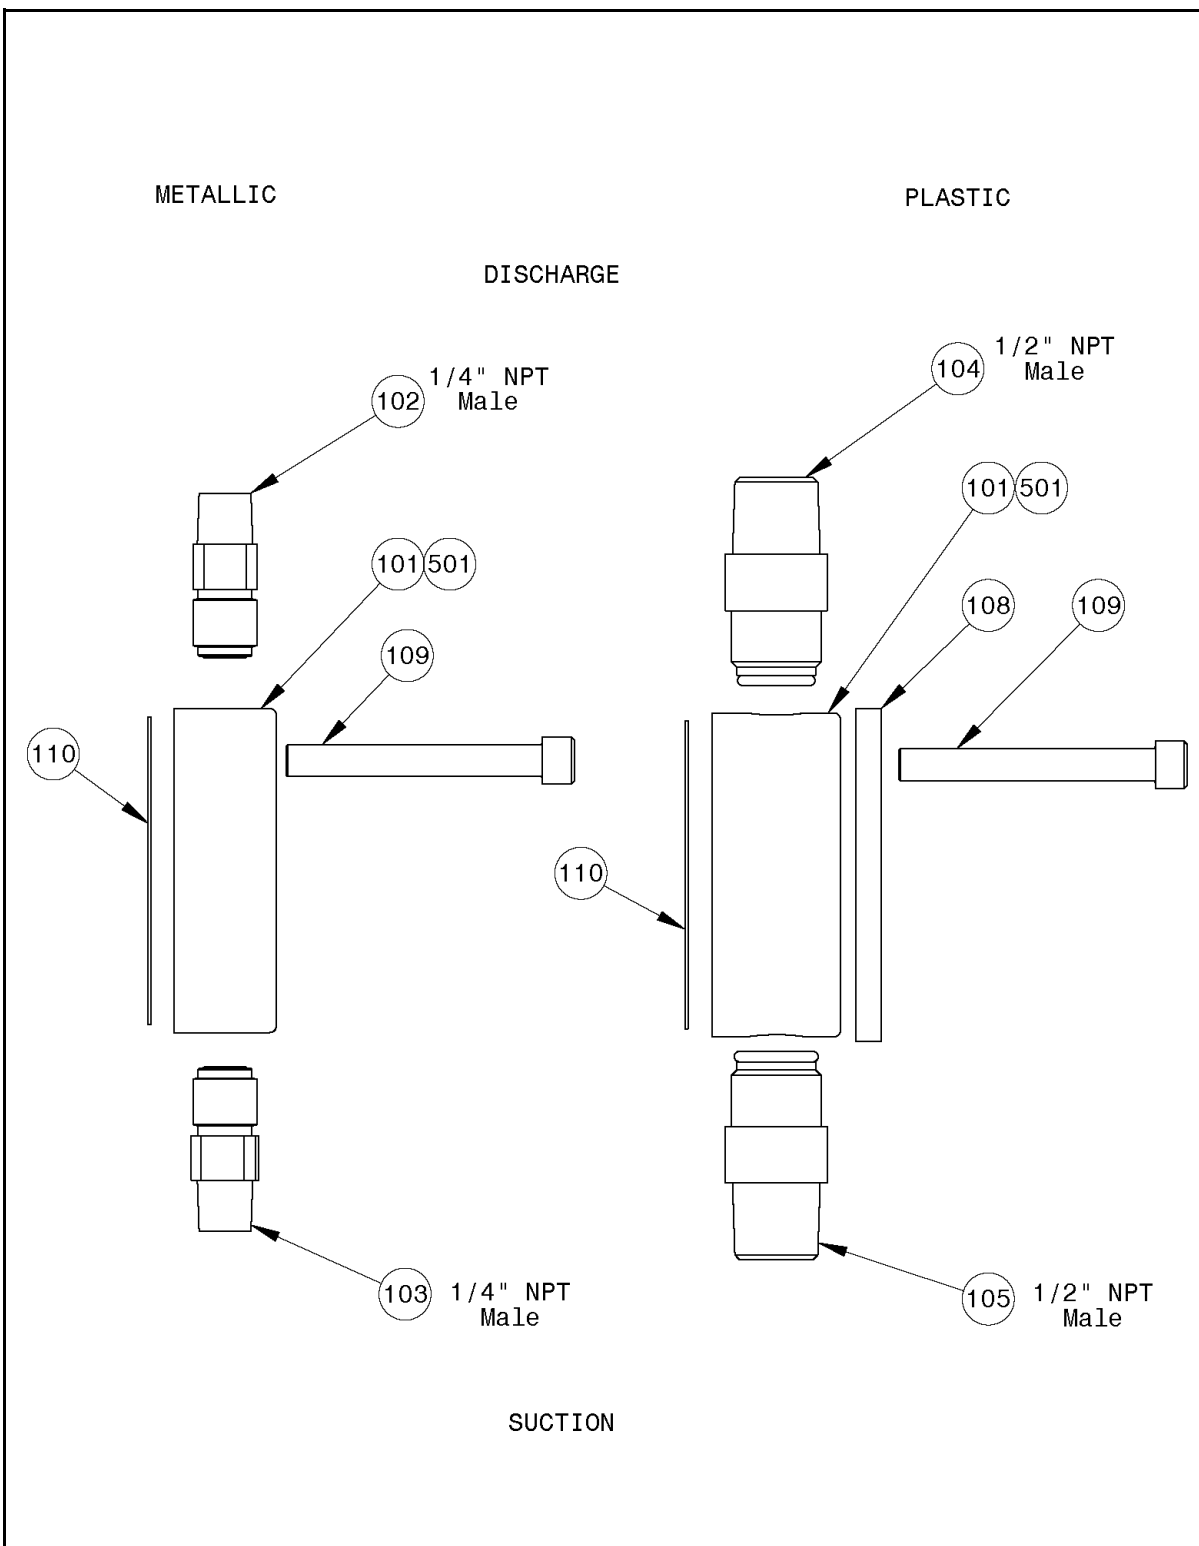

Figure 25. Liquid End Assembly, Size A.
6.3 LIQUID END ASSEMBLY COMPONENTS, SIZE A (316SS, Alloy 20, Hast C & PVC) (FIGURE 25)
6.4 LIQUID END ASSEMBLY, SIZE A (FIGURE 25)